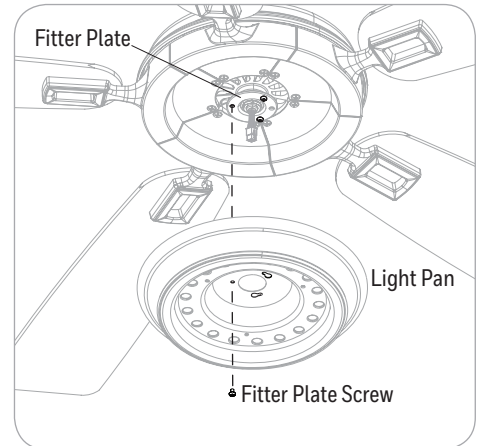

Figure 5.6
- Remove one of the three fitter plate screws from the fitter plate and loosen the other two. Then lift the light pan and place the two keyhole slots in the light pan over the two loosened fitter plate screws. Turn the light pan in a clockwise direction and secure it using the previously removed fitter plate screw. Tighten all three fitter plate screws (Figure 5.6).